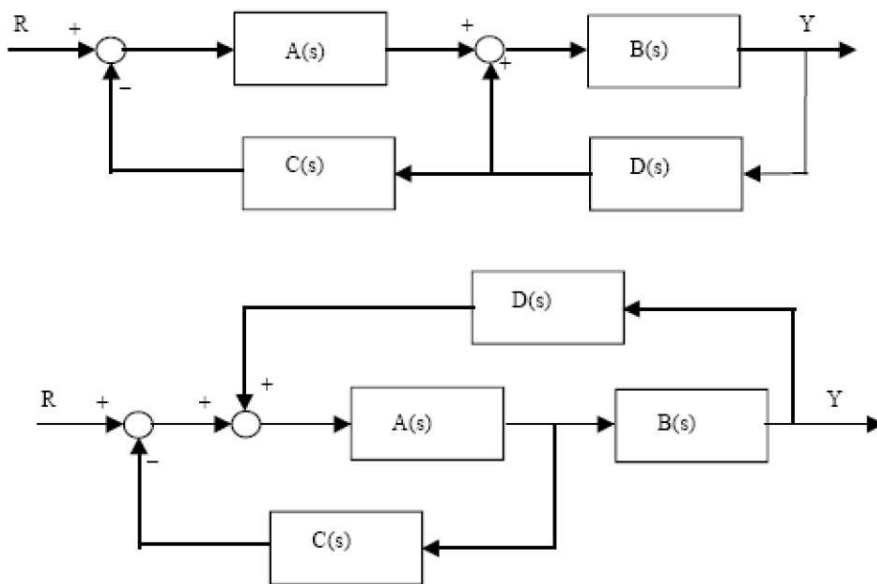

Figure 9.19: Block diagrams of Exercise 6.
6. For each of the two block diagrams in Figure 9.19: